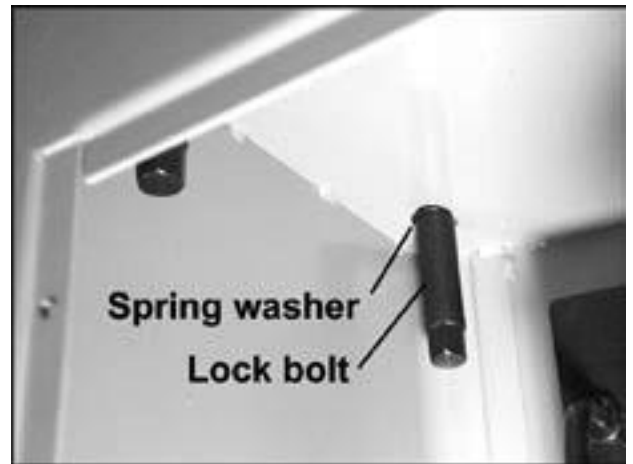

FIGURE 2
2. Use three lock bolts and spring washers to firmly fasten the jointer to the stand. The bolts are threaded up through the holes in the stand into the base of the jointer. See Figure 2. Use a wrench to tighten.